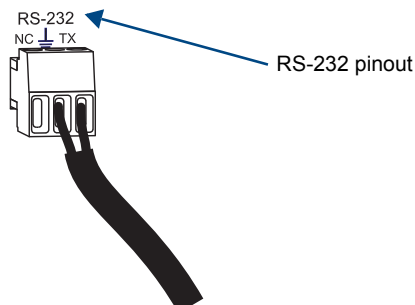

FIG. 25 Wire RX for RS-232 data transfer
1. Wire the RS-232 connector according to the pinout directly above the connector (FIG. 25).